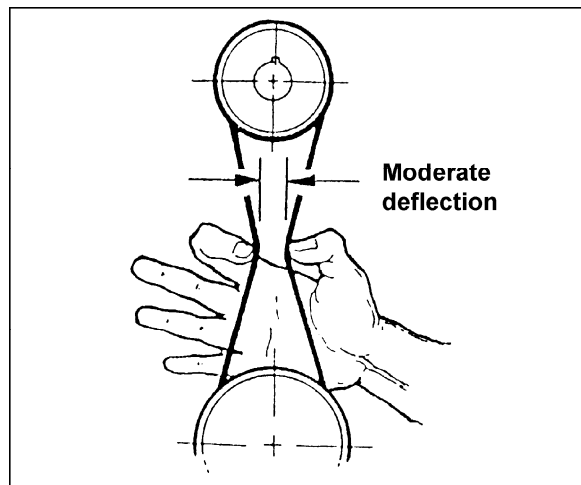

Figure 8
5. Let the motor slide back down and push down on it until the belt is properly tensioned. **NOTE:** There should be only moderate deflection, usually about $\frac{1}{2}$ " , in the belt midway between the pulleys when using light finger pressure (Figure 8).